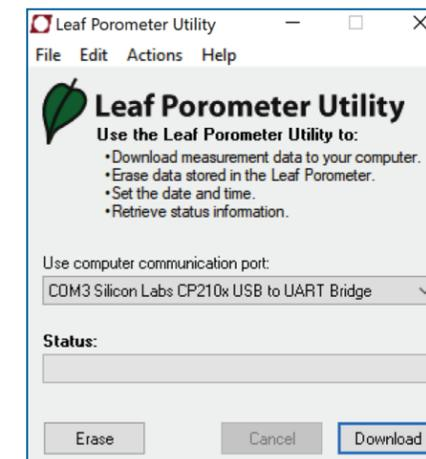

Figure 23 Leaf Porometer Utility main window
3. Open Leaf Porometer Utility (Figure 23).
5. Click **Erase** (Figure 23).